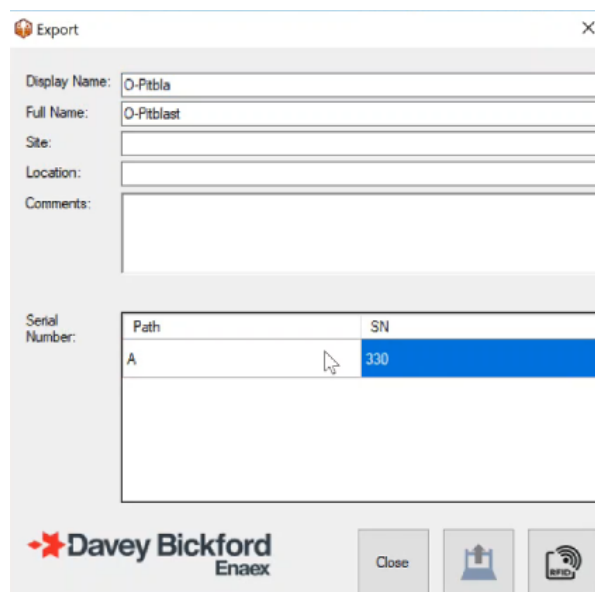

Fig. 281 - Confirmation Path-PU
4. In the end the user will have every path associated to a PU (Fig. 281);